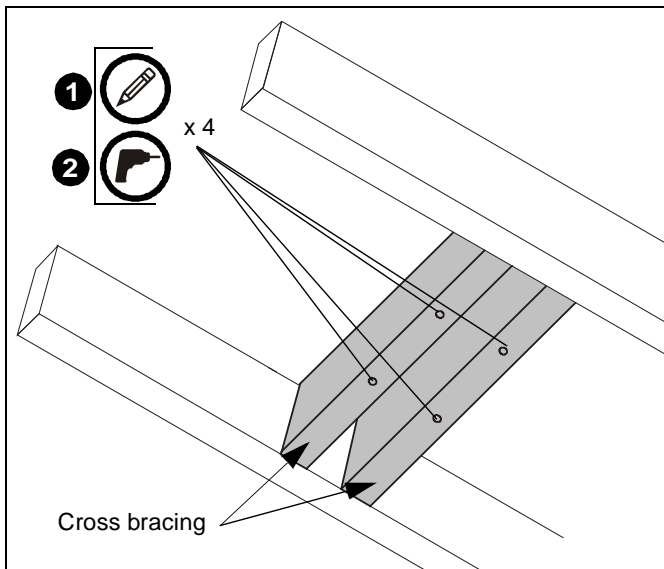

Figure 1
- Using plate and post assembly (A) as a template, mark locations of four pilot holes (See Figure 1). Ensure the marks are in the center of wood joists.
- Drill 7/32" diameter pilot holes into wood stud cross bracing. (See Figure 1) Ensure pilot holes are straight.